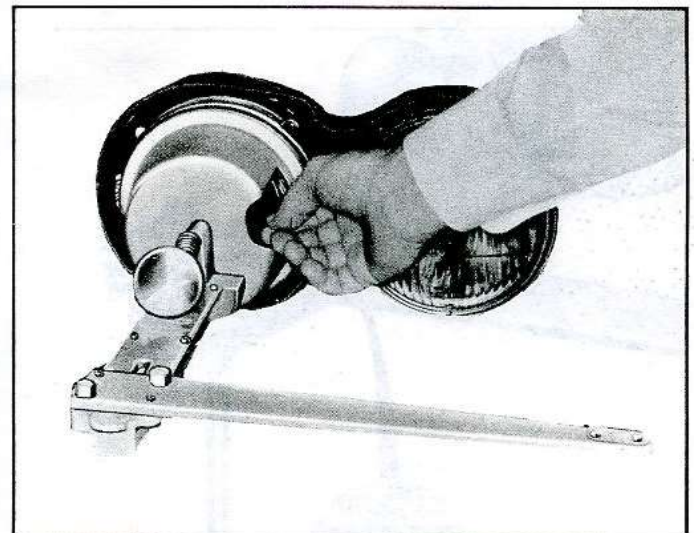

Fig. 6—Removing Aimer from Headlamp
10. Remove the aimers by pulling on the suction cup tabs through the openings in the aimers (fig. 6).